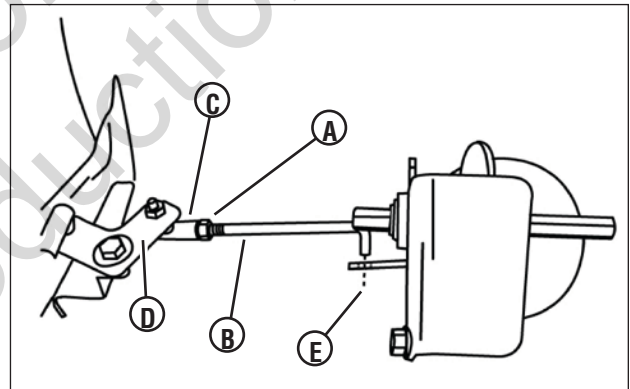

Figure 27: Adjusting the transfer rod
4. Loosen the jam nut (A, Figure 27) securing the transfer rod (B) to the ball joint (C) on the pivot bracket (D).
5. Turn the rod in or out of the ball joint until the end of the rod aligns with the hole (E) in the driven disc assembly from which the rod was removed.